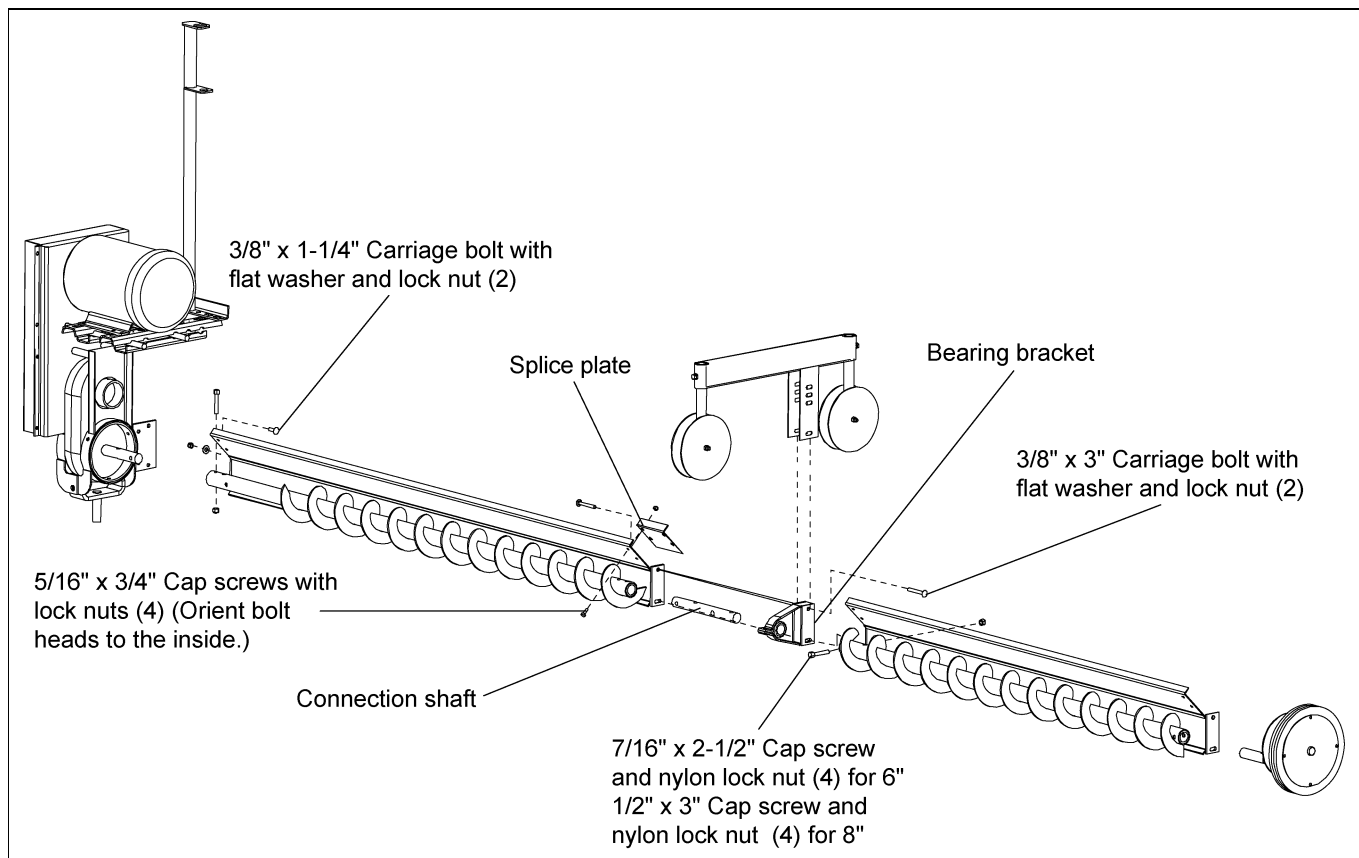

Figure 4E
- Bolt the sweep flight with the cutback to the reducer output shaft of the drive assembly using two (2) 7/16" x 2-1/2" HHCS bolts and lock nut. Attach the back shield to the drive frame using two (2) 3/8" x 1-1/4" carriage bolt, flat washers and nylon lock nuts. (See Figure 4E.)
- Connect the sweep flights together with the connecting stub shaft using four (4) 7/16" x 2-1/2" HHCS bolts and lock nuts. Be sure to place connecting stub shaft through the bearing bracket before attaching the flight together. (See Figure 4E.)
- Attach the back shields to the bearing bracket using two (2) 3/8" x 3" carriage bolts with flat washers and lock nuts. Connect the splice plate to the shields with four (4) 5/16" x 3/4" HHCS bolts and lock nuts. For bins 48' or larger in diameter, install the sweep carrier at a bearing location in the center or outward of center of sweep length. (See Figure 4E.)